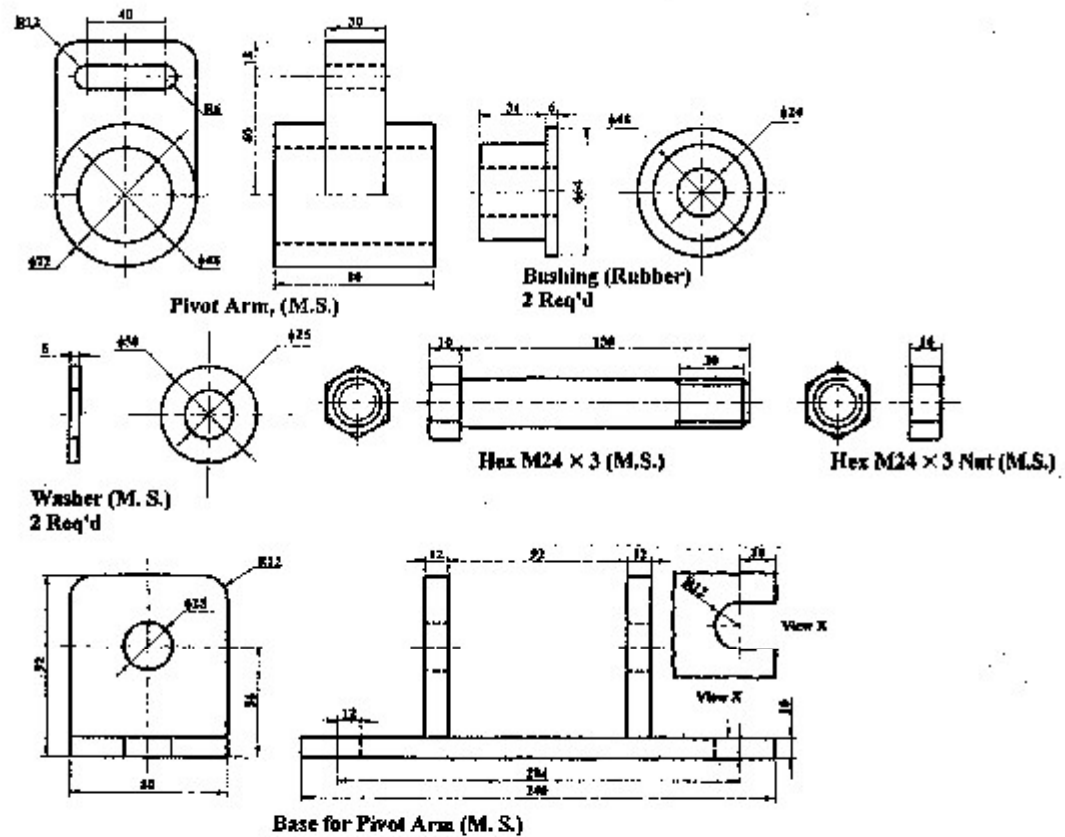

Figure P.5
5. Draw the assembled front view with section from the following detail drawings shown in Figure P.5. [14]